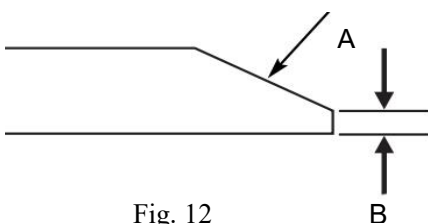

Fig. 12
- Keep the original bevel (A, Fig. 12) when grinding. **DO NOT** change the mower blade bevel.
- The mower blade should have a maximum 1/64" (0.40mm) cutting edge (B, Fig. 12) or less.